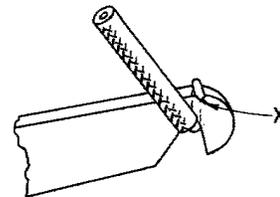

Fig. 7 – Termination of Wire on Terminal of a No. 65 or Similar Type Terminal Strip
8.09 To terminate a wire on a terminal of a No. 65 or similar type terminal strip, bring the wire along the left side of the terminal, through the notch, back along the right side of the terminal, and across the top as shown in Fig. 7. Cut or break the excess wire at point "X". →20-gauge wire should be cut instead of broken.